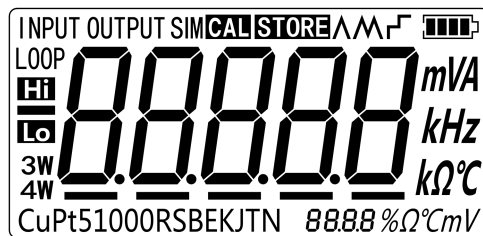

Figure 2.1-2
2. Press  for more than 2 seconds to turn on the calibrator. The calibrator checks itself, including check on internal circuit and LCD, during which, LCD displays all contents for 1s as shown in Figure 2.1-2: